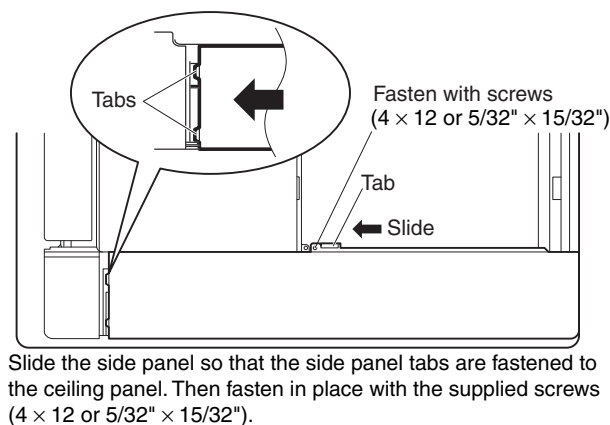

Fig. 3-82
- (1) Grasp the side panel finger grip and slide the panel in the direction of the arrow to install the side panel. (Fig. 3-82)
- (2) Fasten the side panel onto the ceiling panel using the supplied screws (4×12 or $5/32'' \times 15/32''$).